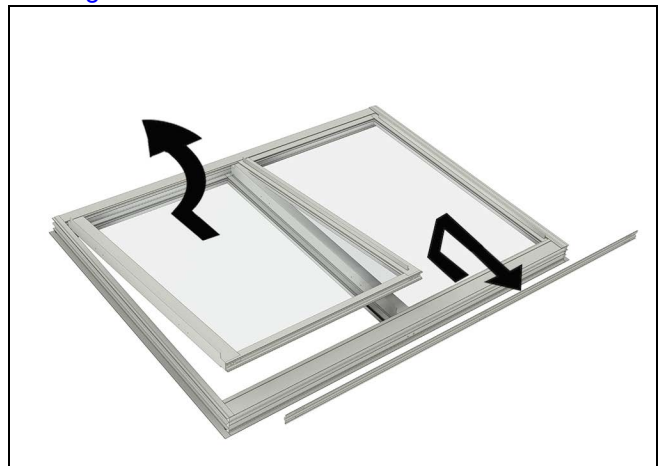

Figure 7
2. Remove Operator Sash and Sill Track, set aside. See Figure 7.